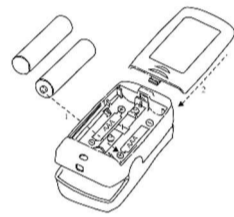

Figure 2 Battery Installation
- Refer to Figure 2, insert two AAA size batteries into the battery compartment properly, and note the polarity markings.